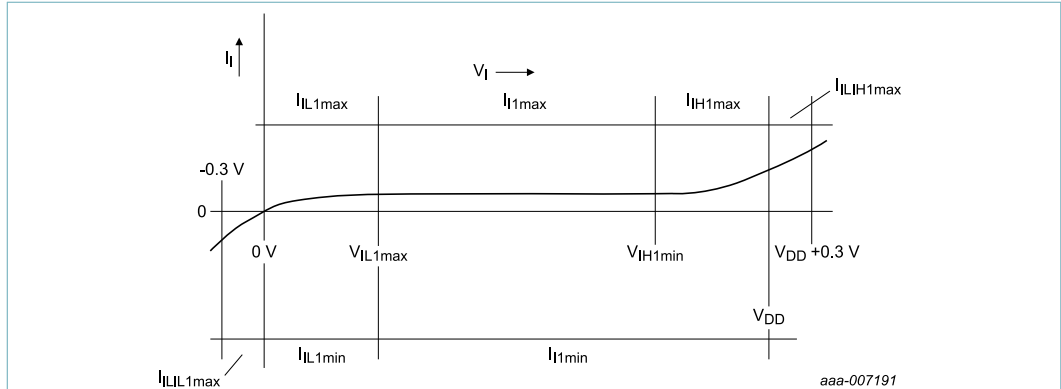

Figure 7. Input characteristic of CLK when the IC is not in reset and of RST_N
- [1] The active low RST_N input and outside reset state also the CLK input internally activate a resistive pull-down device to VSS. Accordingly a current is flowing into the pad at voltages above 0 V. Figure 7 shows this input characteristic. In CLOCKSTOP mode the preferred electrical state on CLK is a LOW level, in order to minimize the power consumption.